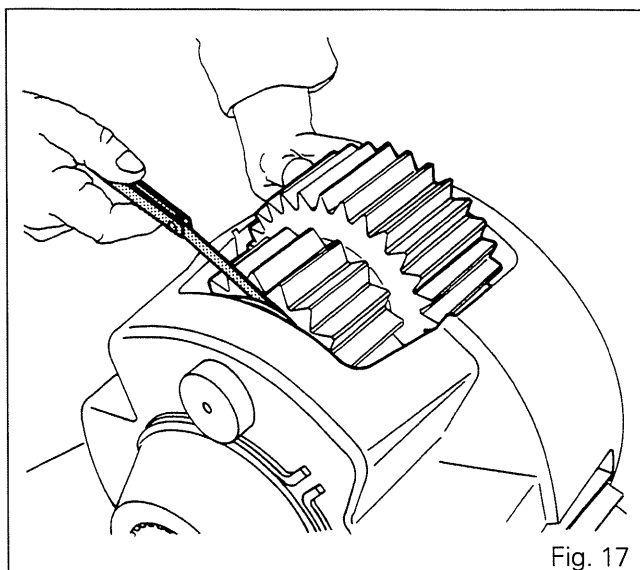

Fig. 17
12. Coat the needles (20) with grease miscible with oil. In each planetary gear (18), insert two rows of needles separated by a spacer (19).
14. Fit the planetary gears (18) with the 17 tooth gears facing the circlip (15), place the washers (36) and the shims [17] of medium thickness towards the 17 tooth gears.
15. Engage the three planetary gear pins (16), the radial hole facing the circlip (15).
16. Using a feeler gauge, determine the thickness of shims [17] to obtain a gap between 0,15 and 0,60 on each planetary gear (Fig. 17).